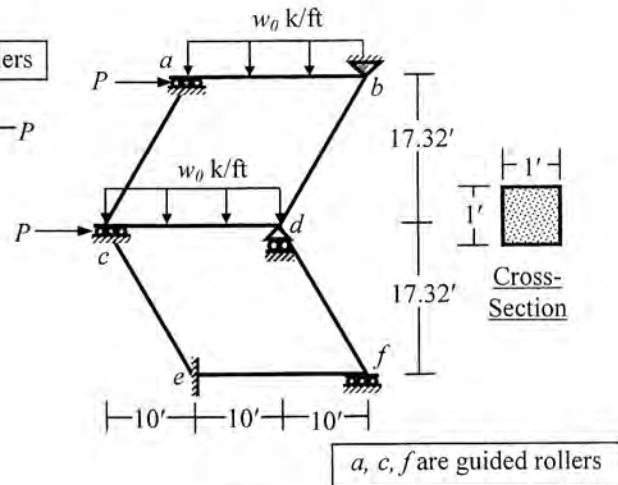

Fig. 7
7. Consider flexural deformations and geometric nonlinearity to calculate the rotation at joint b and d of the frame $abcdef$ loaded as shown in Fig. 7 [Given: $E = 500 \times 10^3$ k/ft²].
8. Consider flexural deformations only with consistent mass matrix to calculate the natural frequencies of the frame $abcdef$ shown in Fig. 7 [Given: $E = 500 \times 10^3$ k/ft², Unit weight = 0.15 k/ft³].
9. Consider axial deformations only with lumped mass matrix to calculate the natural frequencies of the frame $abcdef$ shown in Fig. 7 [Given: $E = 500 \times 10^3$ k/ft², Unit weight = 0.15 k/ft³].